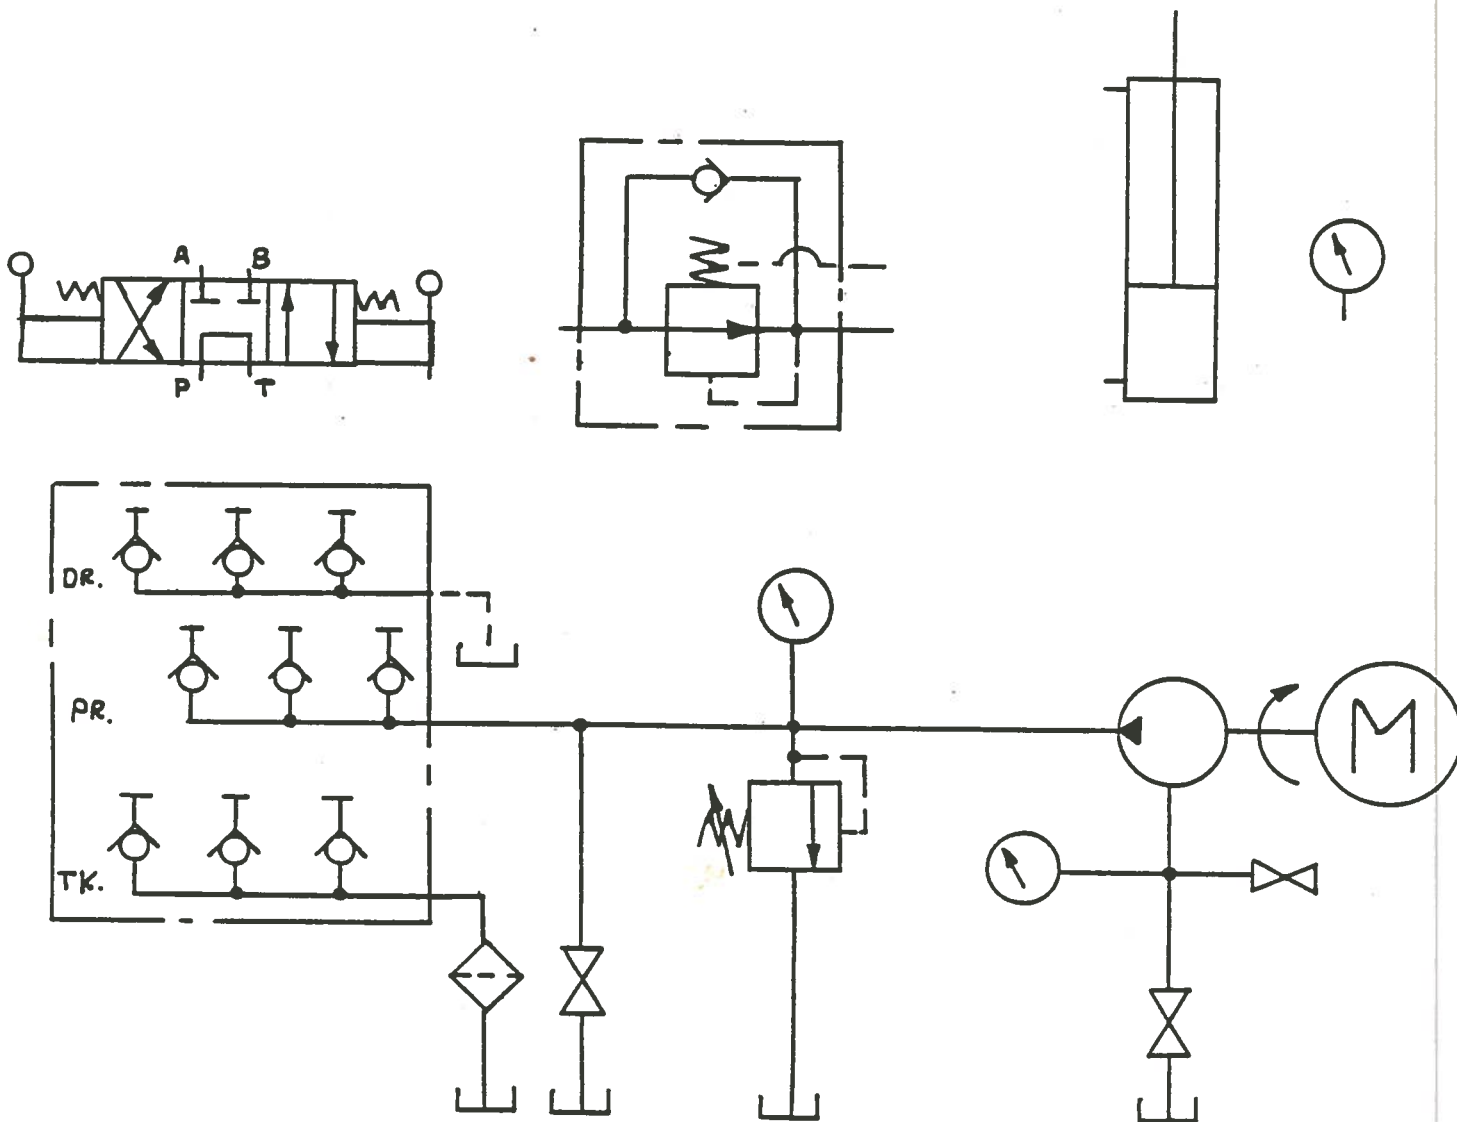

FIGURE 2. RECIPROCATING CIRCUIT
- A. Complete the drawing shown in Figure 2. The purpose of the circuit is to reciprocate the vertical cylinder with the directional valve. In addition, the maximum pressure on the cap end is to be 200 PSI. The maximum pressure at the rod end is to be 500 PSI.